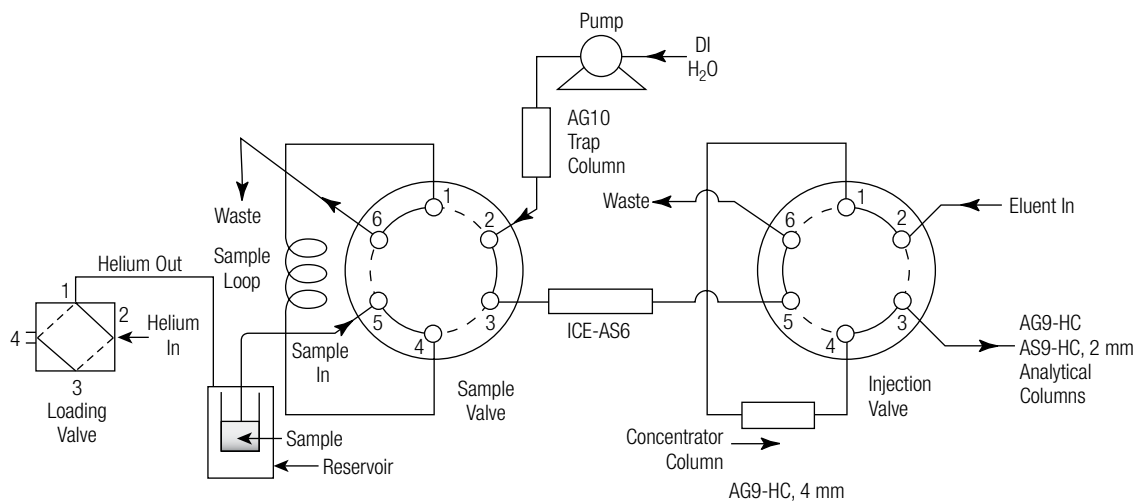

Figure 2. Loading the sample loop.
A series of schematics (Figures 2–5) illustrates the operation of the chromatographic hardware. The concentrated glycolic acid sample is loaded via a pressurized reservoir into the 750 μ L sample loop (Figure 2). Helium or nitrogen at 34.5 kPa (5 psi) is used to push sample from the sample container into the sample loop at a flow rate of $\sim$ 1 mL/min (1.27 g/min). This technique ensures that a representative sample of the concentrated glycolic acid sample is loaded into the sample loop. It is important to pass at least four loop volumes through the sample loop to ensure reproducible sampling.⁶
2. Fill the 750 μ L sample loop with deionized water. Use helium gas pressure to push the deionized water sample using the reagent reservoir (Figure 2).